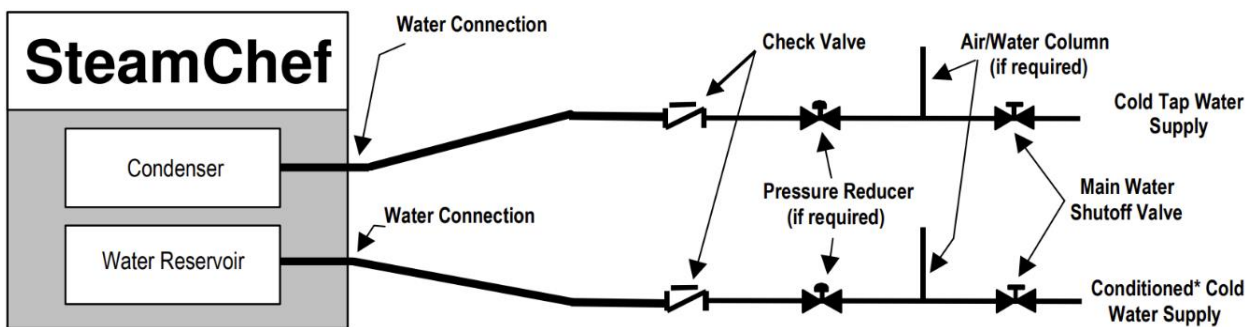

Figure 3-11 Cleveland Range Separate Water Supply Arrangement when Using Separate Conditioned* Feed Water Supply
h) Although 22CET's are very tolerant of hard water, the owner may want to use conditioned water to supply the reservoir. To use a separate conditioned water supply, use the layout shown in Figure 3-11.